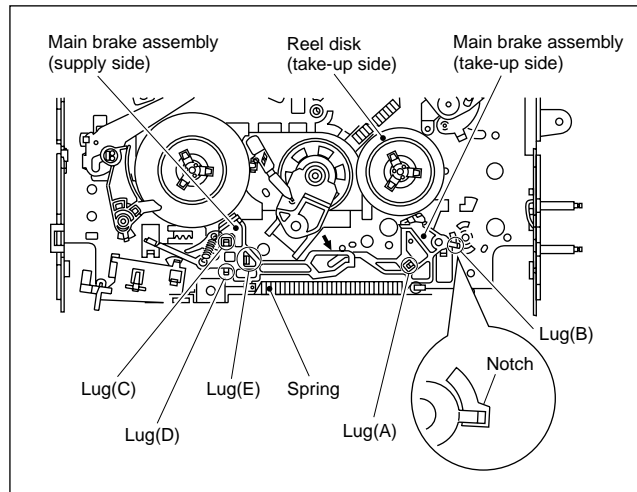

Fig. 2-2-20a
- (1) Move the main brake assembly (take-up side) in the arrow-indicated direction and remove the reel disk (take-up side).
- (2) Remove the spring attached to the main brake assembly.
- (3) Remove the lug (A) of the main brake assembly (take-up side) and pull out the lug (B) after bringing it into alignment with the main deck notch.
- (4) Remove the lugs (C), (D) and (E) of the main brake assembly (supply side) from the main deck and pull them off. (See Fig.2-2-20a.)